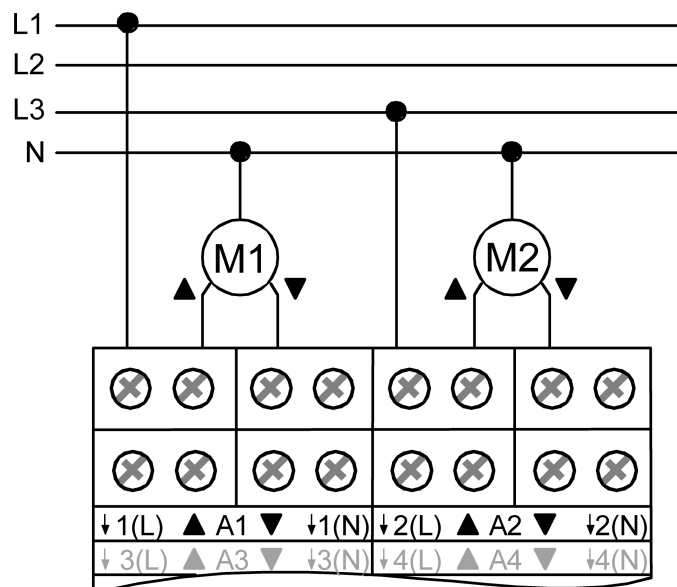

Figure 3: Electrical connection for 230 V drives
- Connect the drives as shown in the wiring example (figure 3).